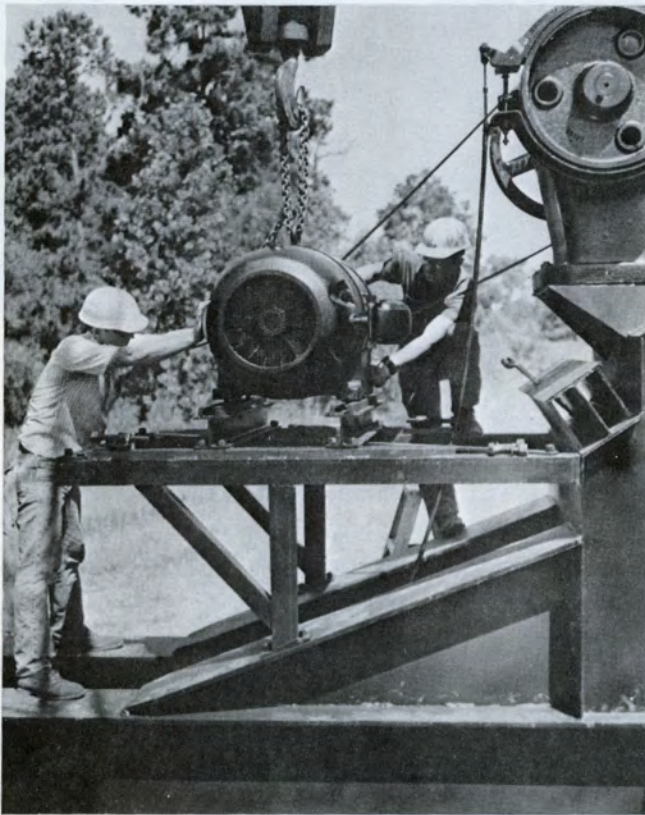

Figure 29
25. Figure 29 - Install Prime Mover